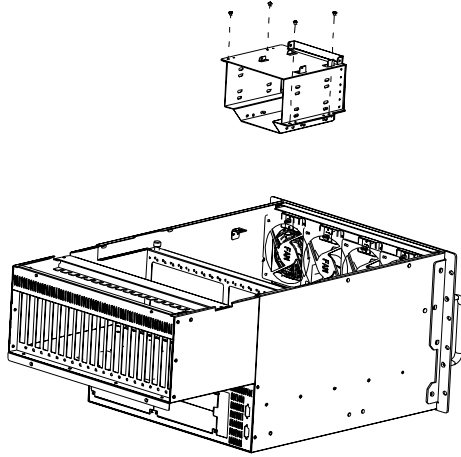

Figure 2.10: Removing the disk drive bay
5. Insert other disk drives into the proper location in the disk drive housing and secure them with the screws provided (See Figure 2.10).